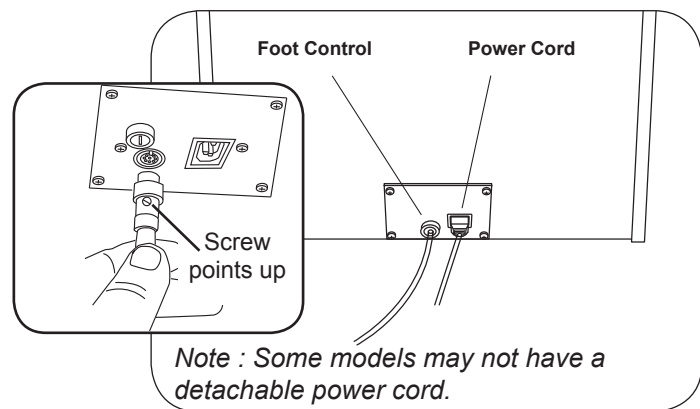
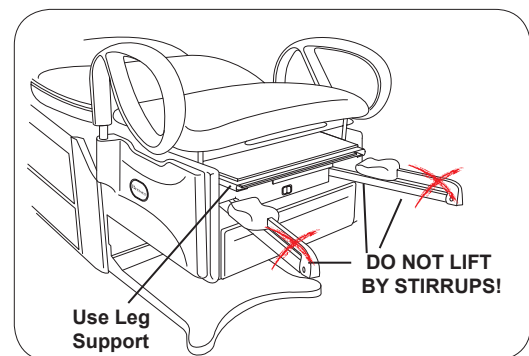
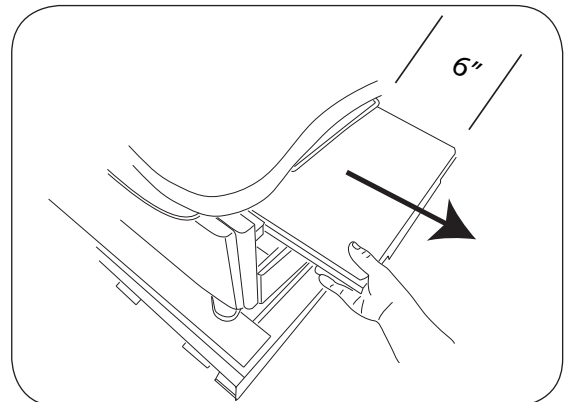

Figure 5. Leg Support Pulled Out 6"
Figure 7. Stirrups & Leg Support
Figure 10. Leg Support Pulled Out 6"
To avoid damaging the table lift only at points indicated in Figure 7. Do not lift at other points as indicated in Figures 5 and 6.
7. Insert the foot control cord into the receptacle at the bottom of the rear panel (Figure 5). Secure with locking ring.
8. Remove the gray power cord from the rear drawer. Plug the power cord into the socket at the bottom of the rear panel (Figure 5). Plug the power cord into a 120 Volt grounded receptacle.
Do not lift or move table by using the stirrups as a hand hold. Lifting or Moving table by stirrups can damage the internal indexer housing unit (Figure 7).
12. Prepare the front of the table for lifting by pulling out leg support approximately 6" (Figure 10). DO NOT fully extend leg support as damage to the slide mechanism may occur.
21. If repositioning is required, lift, move and lower table. Do not lift by stirrups (Figure 7), upholstery (Figure 8), fully extended leg support (figure 10), push on backrest (Figure 9) or push or pull sideways on fully extended leg support (Figure 17).